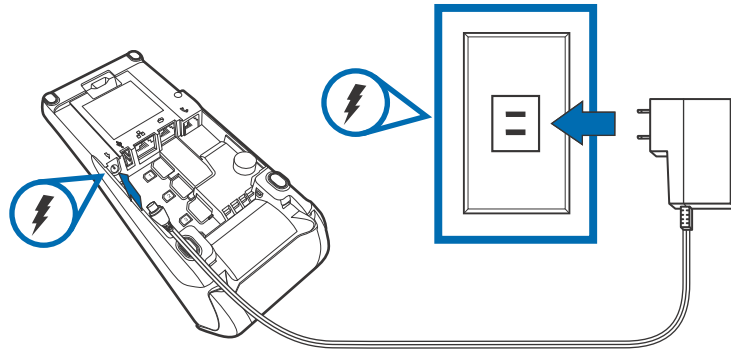

Figure 15 Power Connection
- 2 Insert the round barrel connector (see Figure 15) into the power port.